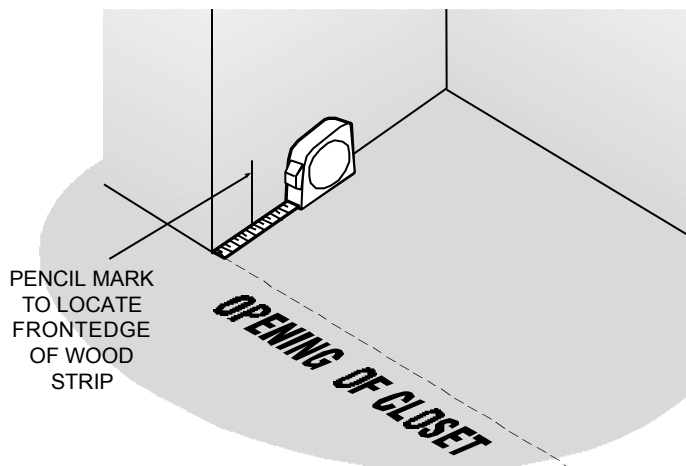

Figure 2
- C. Find the correct offset measurement using the **Offset Measuring Table** on Page 3 (**B Measurement**) for your particular installation. From the front edge of closet opening inward, measure using dimension from the table and make a pencil mark on wall. Do this on both walls, i.e., right and left walls (See Figure 2).